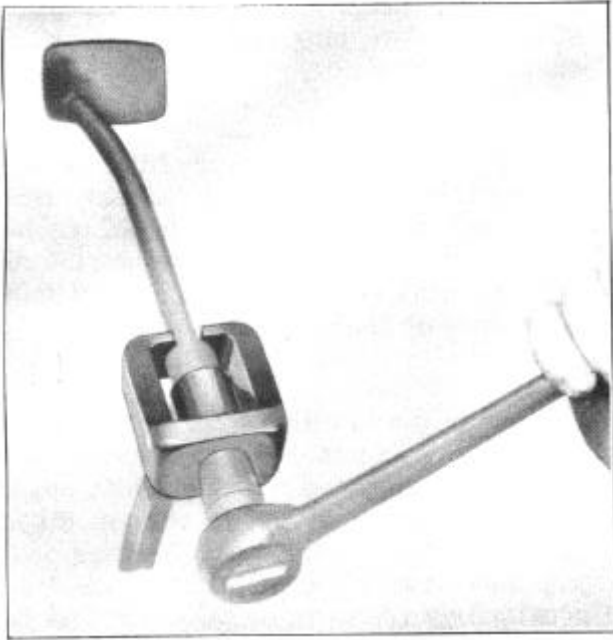

FIGURE 5
4. Remove foot brake pedal rod from brake lever using tool J-2795, Figure 5.